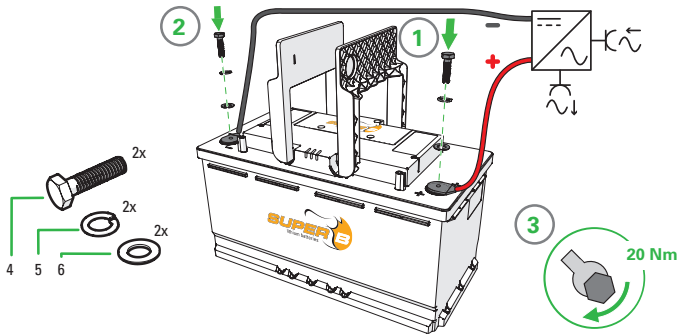

Figure 8. Connecting shrink fit type of power cables
2. Connect the load or charger to the X2 (+) terminal of the Li-ion battery. (Figure 8)
3. Connect the X1 (-) terminal of the Li-ion battery. (Figure 8)